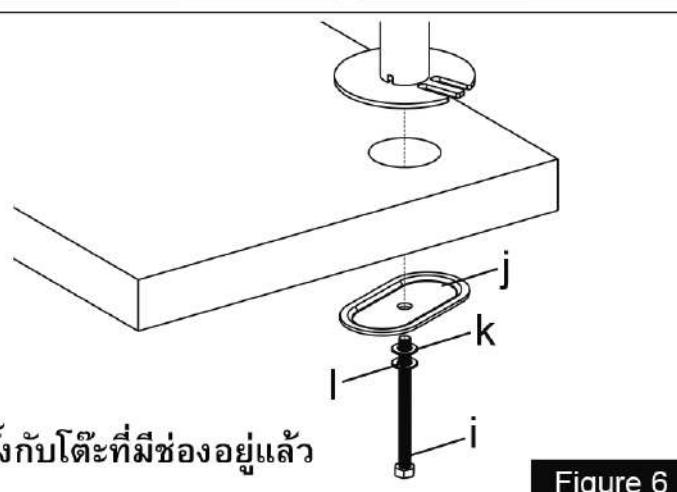

Figure 6
3. Position the Pole(a) on the mounting surface and secure using the Support Plate (j), M10 Washer(k), Spring Washer(l) and M10 Bolt(i). Fasten the M10 Bolt using provided Wrench(p), see Figure 6.